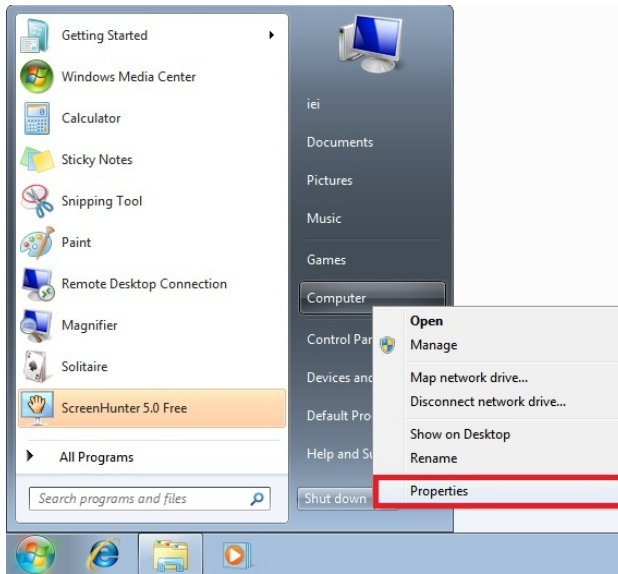

Figure 6-13: Windows Control Panel
- Step 1:** Right-click the Computer button from the start menu and select **Properties** (Figure 6-13).